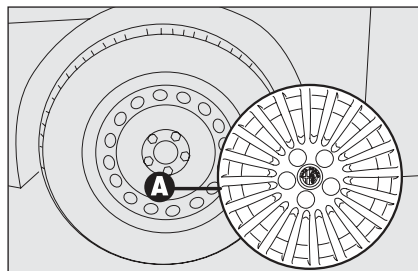

fig. 6
- ☐ Remove the wheel cap **A-fig. 6** (only versions with steel rims);